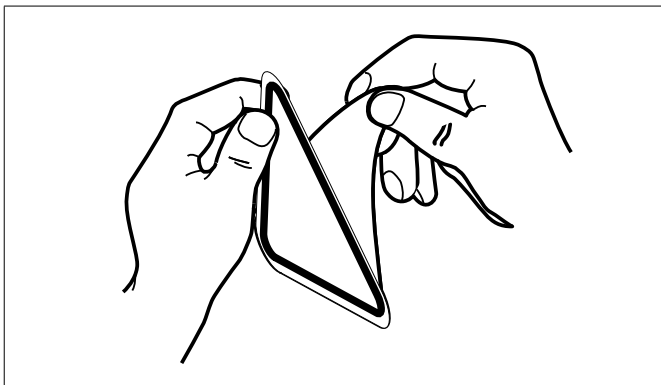

fig. 3 Endpaper removal
3. Pull the endpaper off the safety label; see fig. 3.